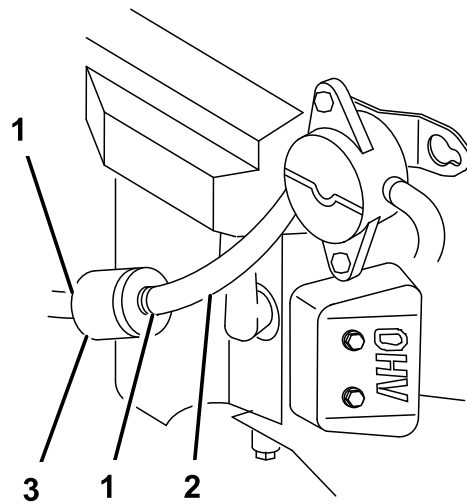

Figure 28
3. Close fuel shut-off valve at the fuel tank (Figure 28).
4. Squeeze the ends of the hose clamps together and slide them away from the filter (Figure 28).
7. Open fuel shut-off valve at fuel tank (Figure 28).